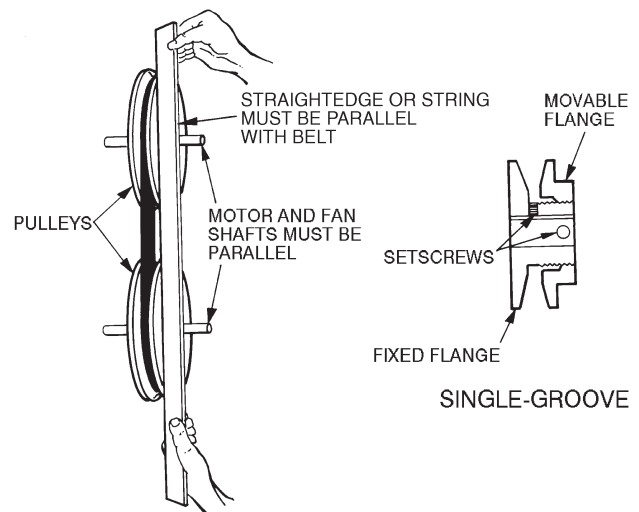

Fig. 30 – Evaporator-Fan Alignment and Adjustment
3. Loosen movable-pulley flange setscrew. (See Fig. 30.)